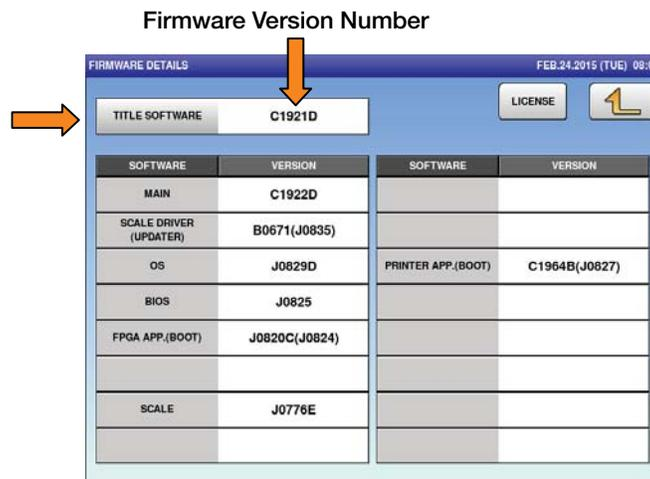

Figure 2-2. Firmware Details
3. Press . The main menu will display. See Figure 2-2.